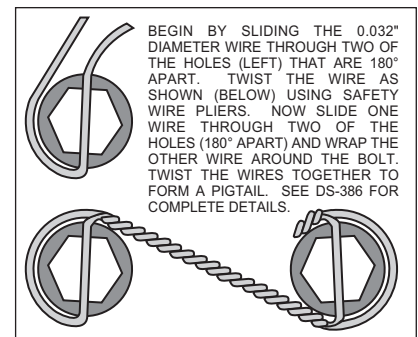

Figure 4. Safety Wire Diagram
- Install the grease seal (6) by pressing into the backside of the hub (4).
- Attach rotor adapter (7) to rotor (8) using six bolts (9). Torque bolts (9) to 180 in-lb. Safety wire bolts (9) using standard 0.032 inch diameter stainless steel safety wire as shown in Figure 4. Please refer to Wilwood's data sheet DS-386 (available at [www.wilwood.com/Pdf/DataSheets/ds386.pdf](http://www.wilwood.com/Pdf/DataSheets/ds386.pdf)) for complete safety wire installation instructions. **NOTE:** The flat side of the rotor (8) lugs face toward the rotor adapter (7) with the dished side of the rotor adapter (7) facing away from the rotor (8).